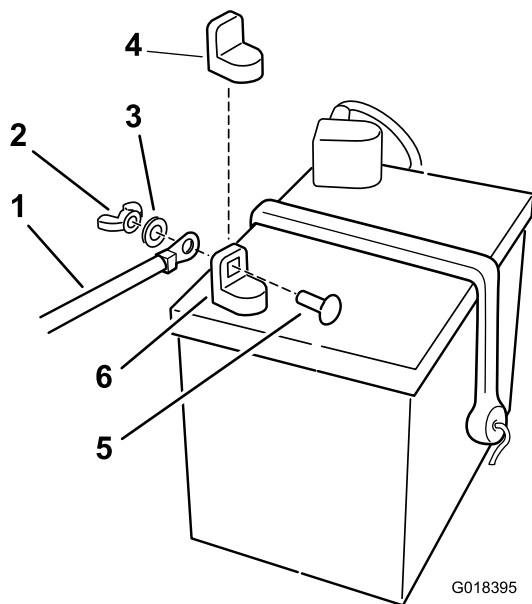

Figure 1
2. Remove the fasteners on the negative battery cable and use them to secure the negative battery cable to the negative battery post (Figure 1).